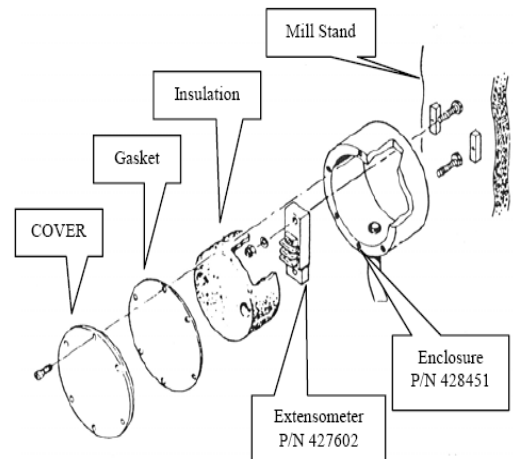

Fig 3.1 Exploded View Of Extensometer And Enclosure Assembly
The Type E-4 Extensometers and associated enclosures, Figure 3-1, are basic elements in the Roll Force Measuring System. The extensometer is a strain-sensing device with semiconductor strain gauges mounted in Wheatstone Bridge configuration. Roll separating forces are measured by attaching the extensometers to bolts welded to the mill posts and monitoring the extensometer output measure roll separating forces, which vary in proportion to applied stress. The following instructions outline the step-by-step procedure for properly installing the extensometers and associated enclosures on the mill posts.
- a) Remove the cover, gasket and foam insert from the enclosure assembly. Refer to fig. 3-1.